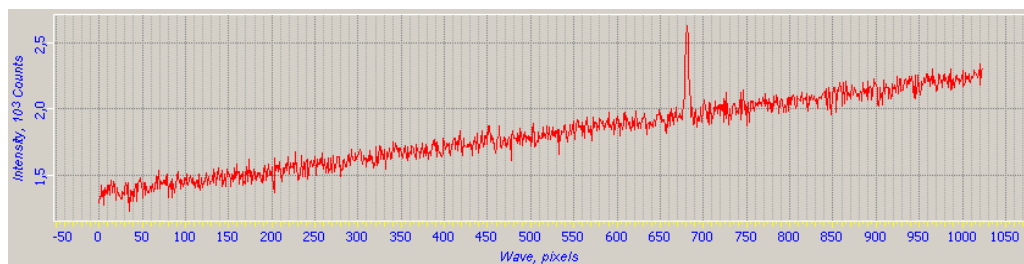

Fig. 12-15. Spectrum collected from the whole CCD-matrix
- d. Collect the spectrum by clicking the **Single Scan** button (Fig. 12-15).